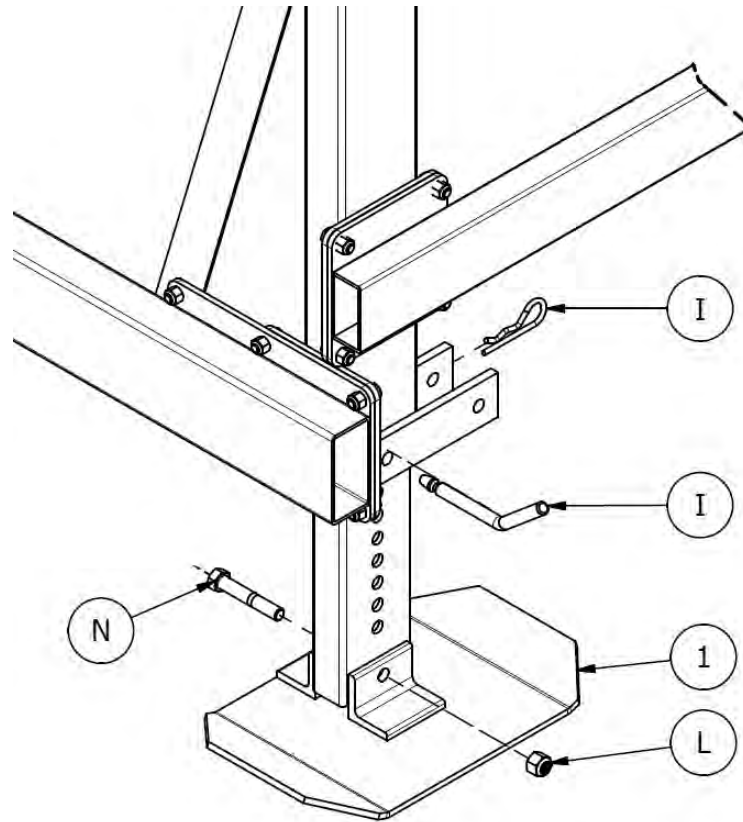

Figure 3-3.
1. Refer to Figure 3-3. Fasten an extension leg onto each of the foot plates using supplied hardware. Insert these subassemblies into the bottoms of each of the vertical legs A, B, C, and D.